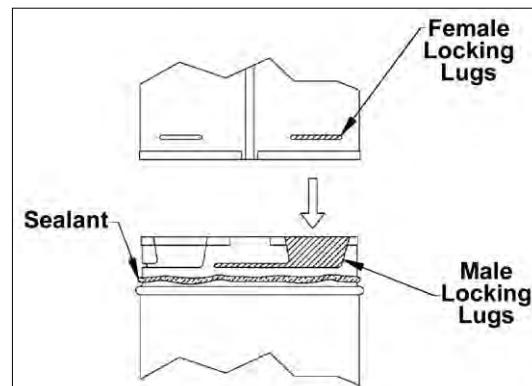

Figure 33: Twist-Lock Connection.
- (1) Twist-lock procedure: Four (4) indentations, located on the female ends of pipes and fittings, are designed to slide straight onto the male ends of adjacent pipes and fittings, by orienting the four pipe indentations so they match and slide into the four (4) entry slots on the male ends. Push the pipe sections completely together, then twist-lock one section clockwise approximately one-quarter turn, until the two sections are fully locked.
- (2) Horizontal runs of vent must be supported every 3 feet (915mm). Wall Straps are available for this purpose.
- (3) Sealant is only necessary on the outer tube of the GS Pipe. Run a  $\frac{1}{8}$  inch (3mm) wide bead of sealant around the male end of the outer sleeve, as shown in Figure 33, and twist-lock the pipes or fittings together.